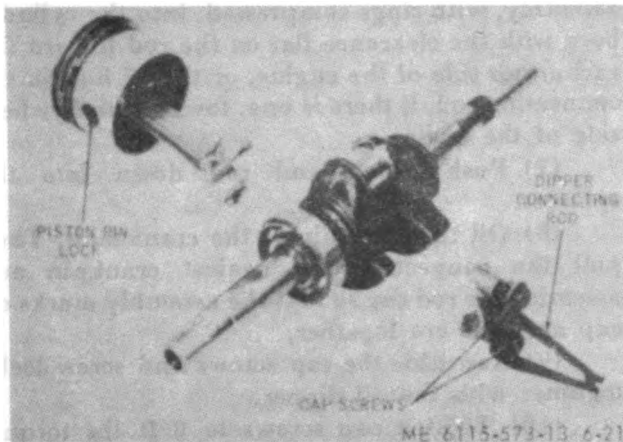

Figure 6-21. Piston, connecting rod, and crankshaft.
(1) Make sure all carbon is removed from piston top and top end of cylinder block, as previously outlined.
(2) Loosen cap screws to remove rod cap (fig. 6-21).
(3) Push rod and piston assembly out of cylinder.